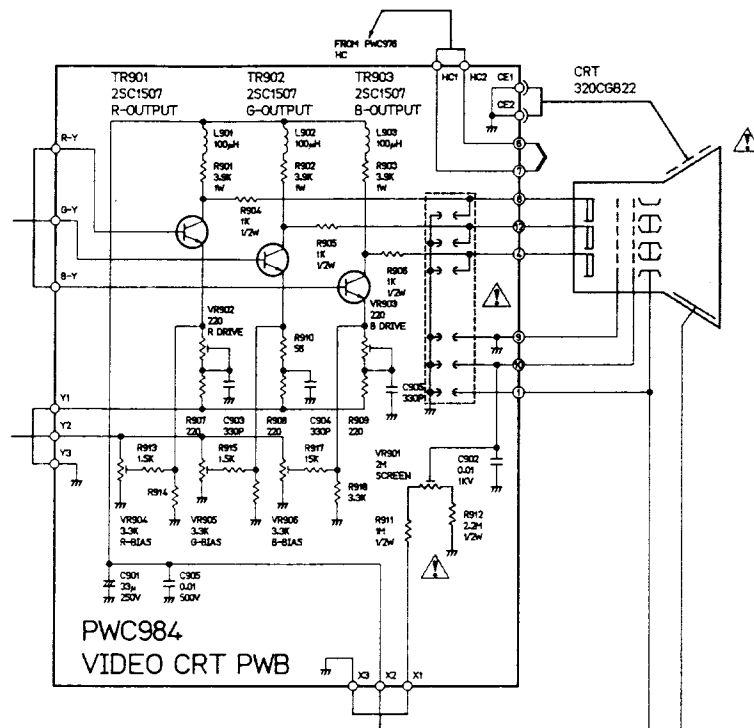

Fig. 12
The 60-Hz signal, originating in AN5411 (not shown in Fig. 12) an amplified, is fed to pin (5) and is then amplified further by the OTL push-pull circuit (vertical output circuit). The amplified 60 Hz signal goes out through pin (9) to the vertical deflection yoke, causing a sawtooth current to flow in the yoke coil.